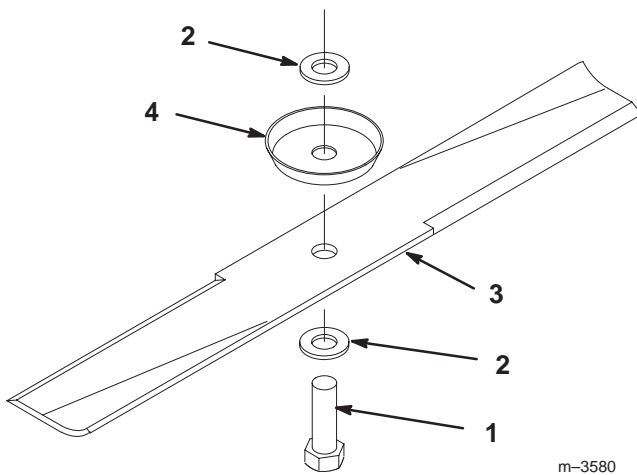

Figure 31
2. Remove the bolt, washer, blade, spindle cup, and washer (Fig. 31).
2. Install the washer, spindle cup, blade, washer, and blade bolt (Fig. 31).